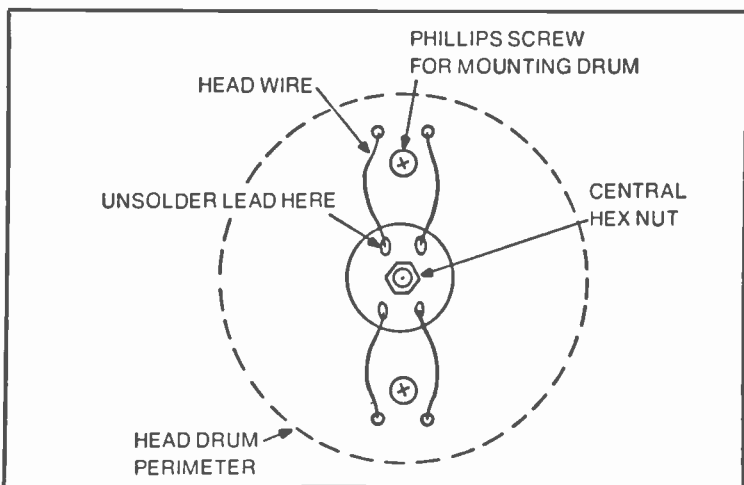

Fig. 16-7. Head drum removal.
- a. Unsolder the leads as shown in Fig. 16-7.